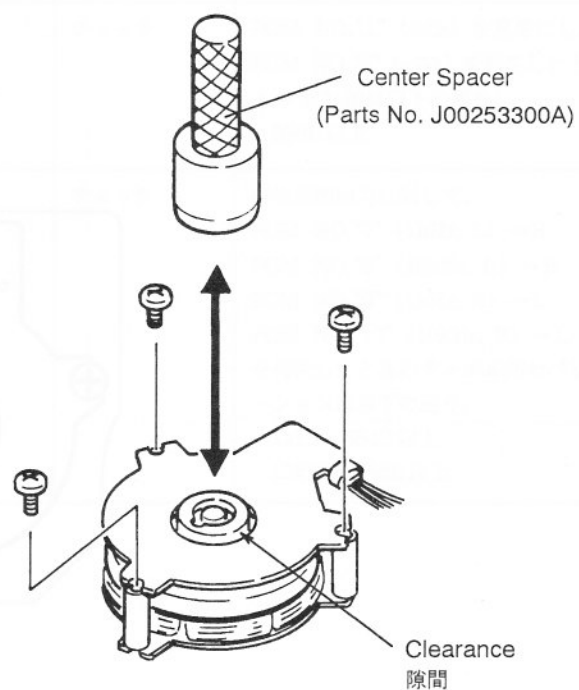

Fig. 4-12
- * When mounting part (19)-1, insert a center spacer for the clearance shown in Fig. 4-12 to be even.
- * Tightening torque for screws (22) and posts (20) should be 0.3 kg·cm. You need the following tools:
- * When removing the hexagonal wrench after fully tightening screw (21), be careful NOT to loosen the screw.
- * If the TACH adjustment (discussed on page 25) after completion of installation does not allow you to get the adjustment value of $803.6 \pm 15 \mu s$, then reassemble part (19)-2 by slightly sliding the mark on the shaft counterclockwise with respect to the positioning hole in part (19)-2.
- * (19)-1 を取り付けるときは、図 4-12 の隙間が均等になるようにセンター・スペーサーを挿入して取り付けすること。
- * (22) ネジおよび (20) ポストの締め付けトルクは 0.3kg·cm 厳守のこと。